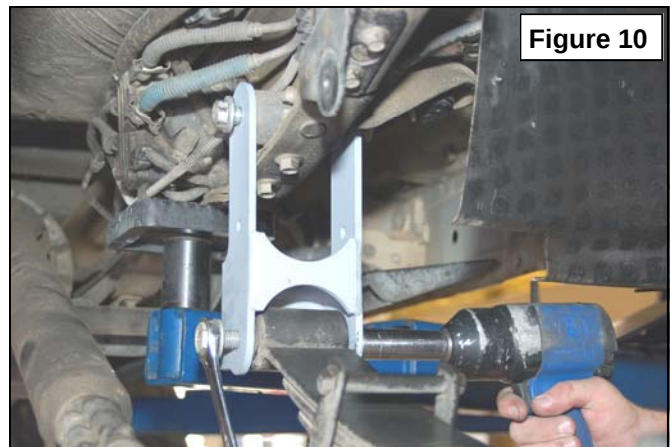

Figure 10
16. Position axle to align with new shackle and secure with factory hardware using a 21mm & 24mm wrench. **See Figure 10.**